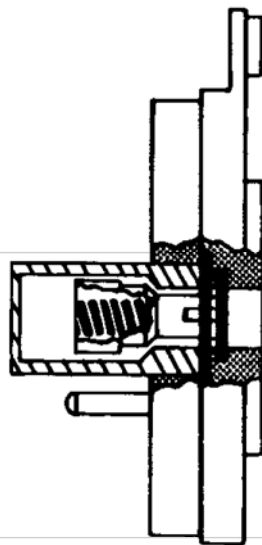

Figure 16
2. When front and back bodies are attached, the front body cylinder is inserted into the rubber bushing of the back body. See Figure 16.